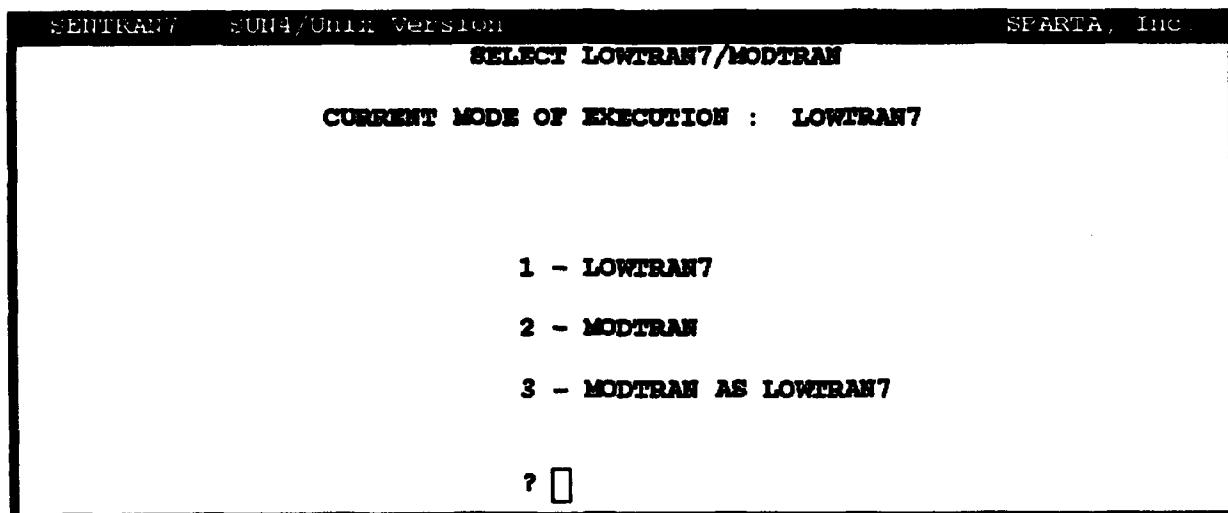

Figure 58. Example of the Screen Displaying the Program Execution Options
- 1) The user first selects which code to execute, either LOWTRAN7, MODTRAN or MODTRAN run as LOWTRAN7 by entering '5' at the Main Menu. The submenu for choosing which code to run will appear as shown in Figure 58. For this case we will run LOWTRAN7, so we will enter '1'. (NOTE: If you only have the code for MODTRAN, then choose option 3 to run MODTRAN as LOWTRAN7).